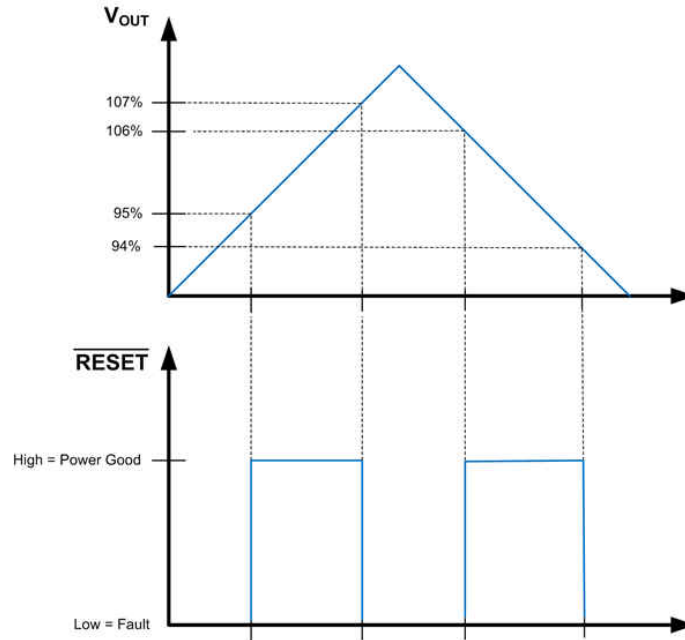
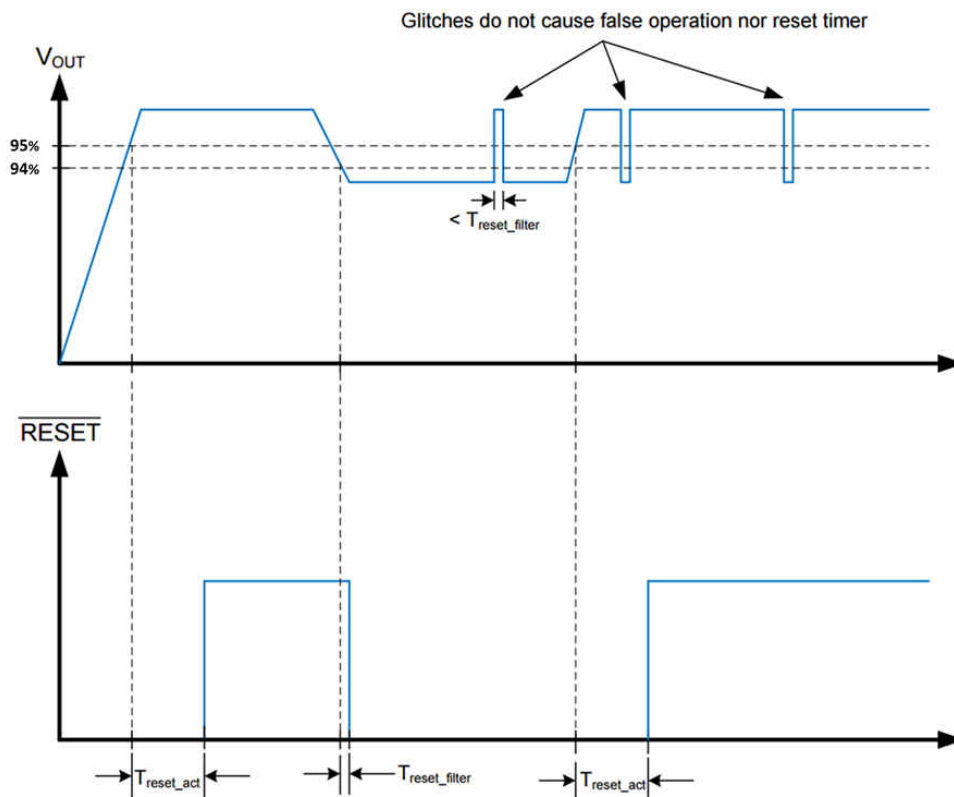

图 8-2. Static RESET Operation
图 8-3. RESET Timing Behavior
The  $\overline{\text{RESET}}$  function, built into the LM53625/35-Q1, has special features not found in the ordinary Power-Good function. A glitch filter prevents false flag operation for short excursions in the output voltage, such as during line and load transients. Furthermore, there is a delay between the point at which the output voltage is within specified limits and the flag asserts Power Good. Because the  $\overline{\text{RESET}}$  comparator and the regulation loop share the same reference, the thresholds track with the output voltage. This allows the LM53625/35-Q1 to be specified with a 96.5% maximum threshold, while at the same time specifying a 94 % worst case threshold with respect to the actual output voltage for that device. This allows tighter tolerance than is possible with an external supervisor device. The net result is a more accurate Power-Good function while expanding the system allowance for transients, and so forth.  $\overline{\text{RESET}}$  operation can best be understood by reference to Figure 8-2 and Figure 8-3. The values for the various filter and delay times can be found in Section 7.7. Output voltage excursions lasting less than  $T_{\text{RESET-filter}}$  do not trip  $\overline{\text{RESET}}$ . Once the output voltage is within the prescribed limits, a delay of  $T_{\text{RESET-act}}$  is imposed before  $\overline{\text{RESET}}$  goes high.
- A delay has been added for release of reset. See 图 8-2 and 图 8-3 for more detail.